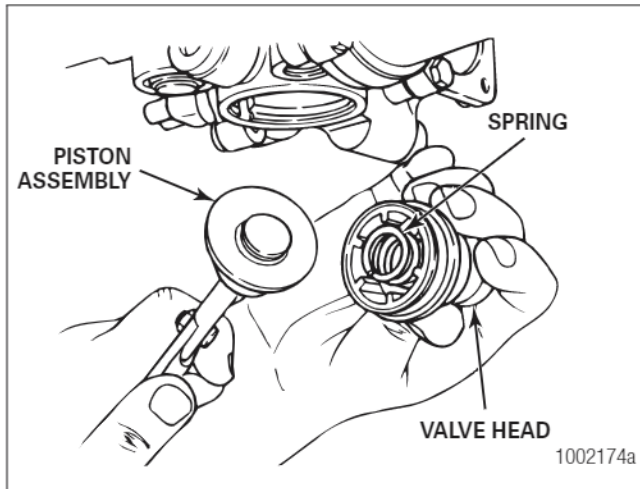

Figure 3.14
3. Remove the piston assembly from the base. Figure 3.14.